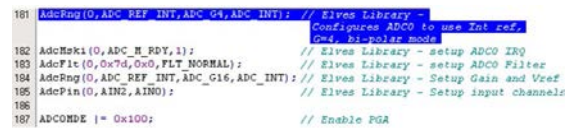

Figure 46. Copying and Pasting Source Code
3. Once satisfied with the register settings, select **Copy** and then paste this function into your source code in Keil or IAR as shown in Figure 46.